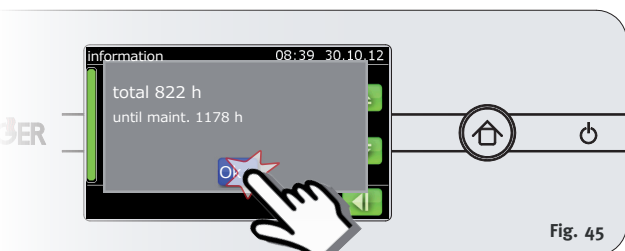

Fig. 45
2. Select OK to close the window (Fig. 45).